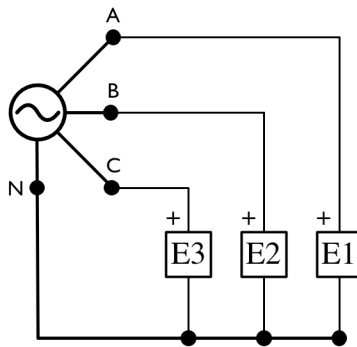

Figure 1.8: Phase Voltage Measurement
- 40. Turn off the power and reconnect voltmeters E1, E2, and E3 to simultaneously measure the PHASE voltages of the fixed voltage three-phase power supply, as shown in Figure 1.8.